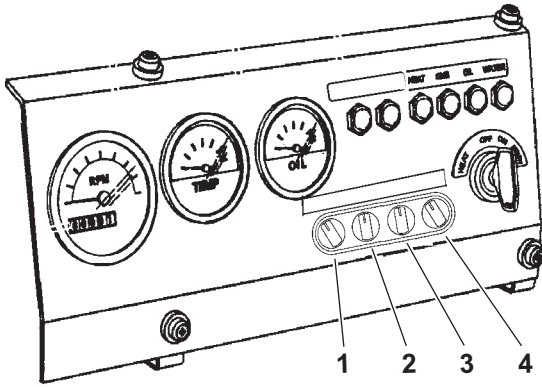

Figure 22
*Note: **Figure 22** Typical operator's console and switch arrangement.*
A certain ON/OFF combination of switches (1) - (4) on the operator's console **Figure 22** will implement this optional feature. For details, see the operation manual for the driven machine.
Other optional features can be provided by selecting certain ON/OFF combinations of switches (1) - (4) on the operator's console **Figure 22** will implement this optional feature. For details, see the operation manual for the driven machine.